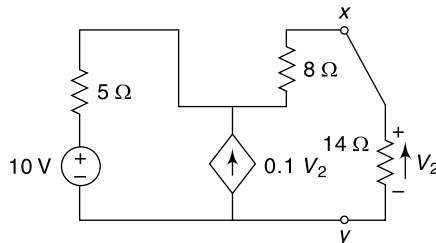

Fig. 4.171 Circuit of Ex. 4.140
4.140 Find the current in the 14Ω resistor using Thevenin's theorem in Fig. 4.171.
Let us first open circuit x - y . See Fig. 4.171(a).